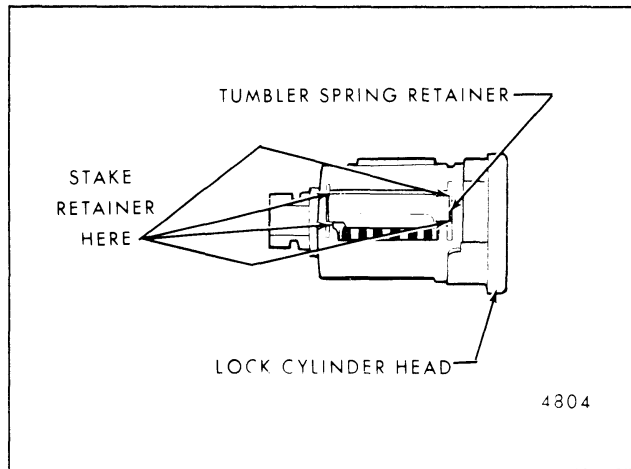

Fig. 1-5-Installing Spring Retainer
4. Insert spring retainer so that two end prongs slide into the slots at either end of cylinder. Press retainer down (see Fig. 1-5).
7. Using suitable staking tool, stake spring retainer securely in place by staking cylinder metal over retainer at each end. Refer to Figure 1-5.